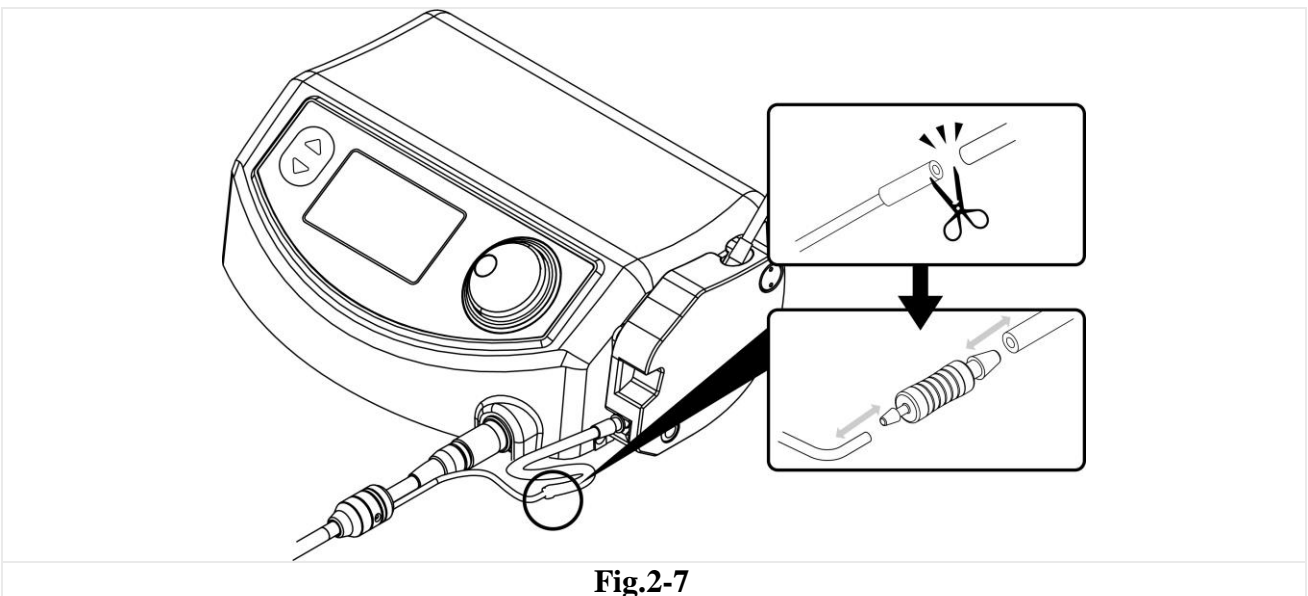

Fig.2-7
(Ref. to Fig.2-7).**
5. Cut off the end of the disposable irrigation tubing (Fig.2-7), and insert the thick side of the tubing connector into the tube. Then, attach the hand piece water tube to the thin side of the connector.